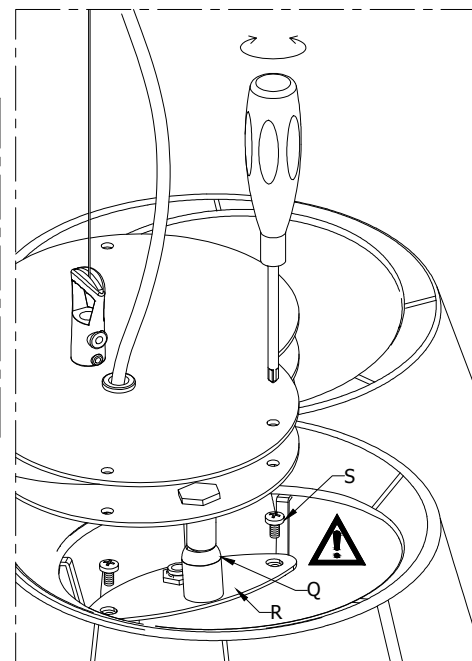

Fig.3
- It is possible to remove the lampshade (L) by unscrewing the particular (I) (Fig. 3).
- It's possible to remove completely the lampshades by unscrewing with a screwdriver the two screws (S) that join the lampshade to the structure.(Fig. 3).
- For a perfect positioning of the lampshades the lamp is provided with a joint (Q) (Fig. 3).
- To regulate the lampshade catch with the hand the plate (R) and move slightly until the right positioning (Fig. 3).